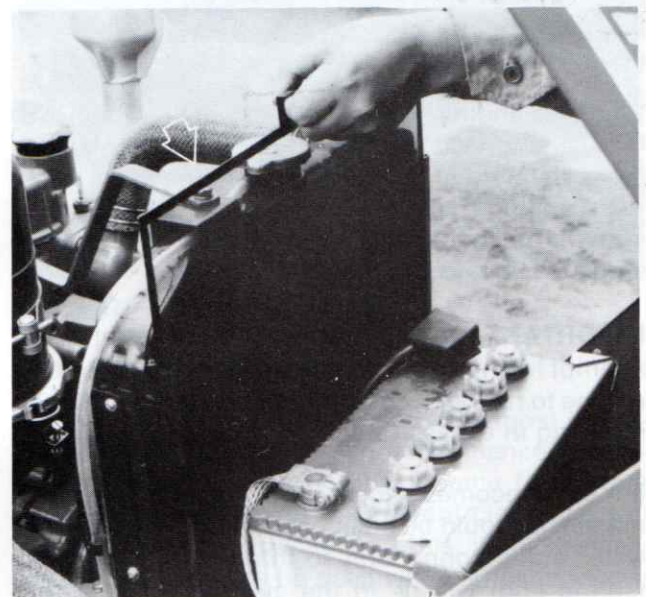

Figure 43 — Radiator Screen
5. Clean the radiator front screen, Figure 43.